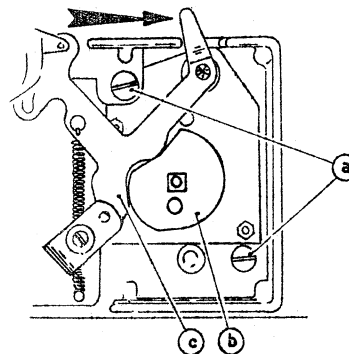

Fig.1
## 1. Master switch, fig. 1 and 2
- After having fitted again the master switch, push it towards the exterior (direction of arrow) right to the stop. Then tighten the two screws (a), and mount lever (c), fig. 1.